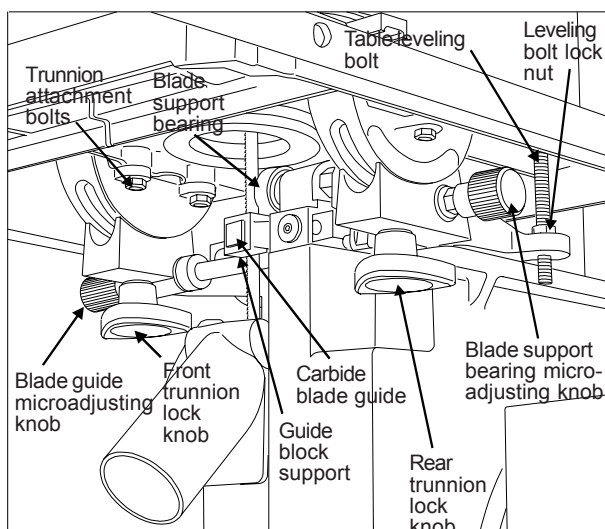

Figure 12. Lower Blade Guide Support
11. With everything locked down, look at the pointer for the angle gauge. It should be exactly on the zero mark of the gauge (*Figure 12*). If not, loosen the pointer screw, adjust the pointer until it is on zero, then tighten the pointer screw while holding the pointer securely in position on zero.
2. Measure from both ends of the miter slot to the straight edge.3. If the measurements are not equal at both ends of the slot, loosen six bolts securing the table to the table trunnions (see *Figures 12 and 13*.)
17. Using the micro-adjusting knob, move the lower blade support assembly (*Refer to Figure 12*) forward until the support bearing just contacts the back edge of the saw blade.